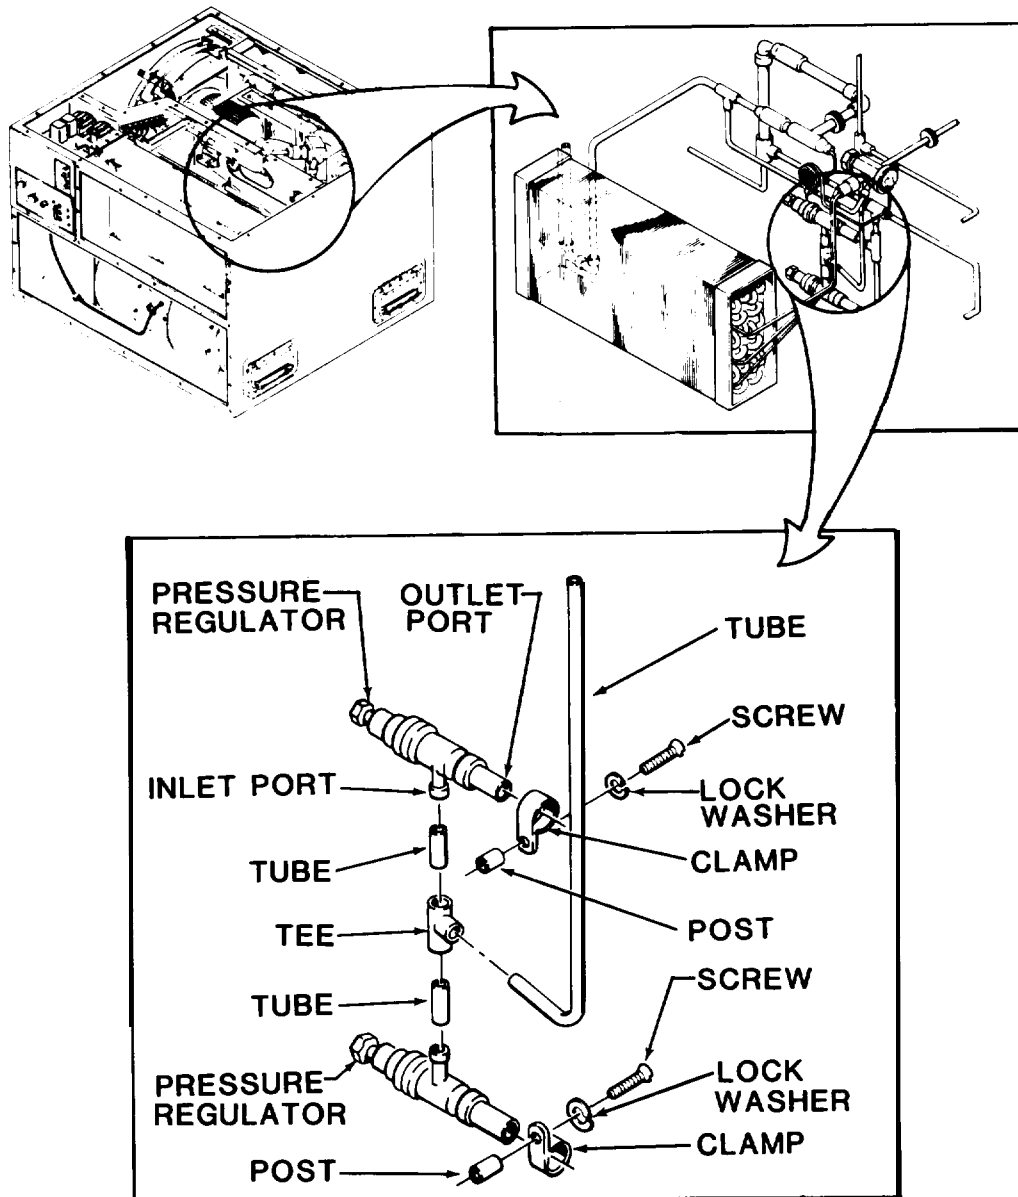

Figure 5-13. Pressure Regulator
a. Removal. (See fig. 5-13.)
(1) Disconnect power at power source.
(3) Discharge and purge refrigeration system per paragraphs 5-11 and 5-12.
(4) Remove screw, lock washer, clamp, and post spacer.
(5) Debraze two tube connections and remove pressure regulator.